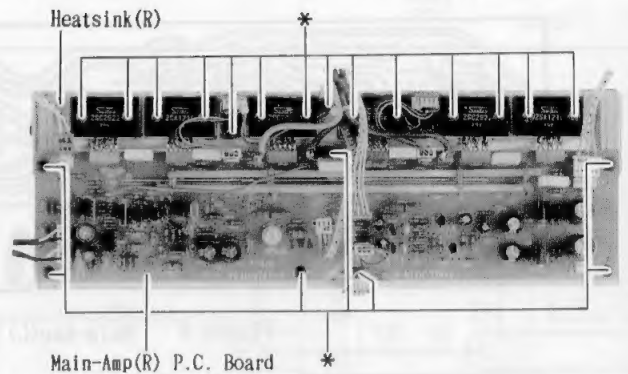

Figure 6
- (1) After removal of Heatsink(R) remove twenty two screws marked " \* " as shown in Figure 6.